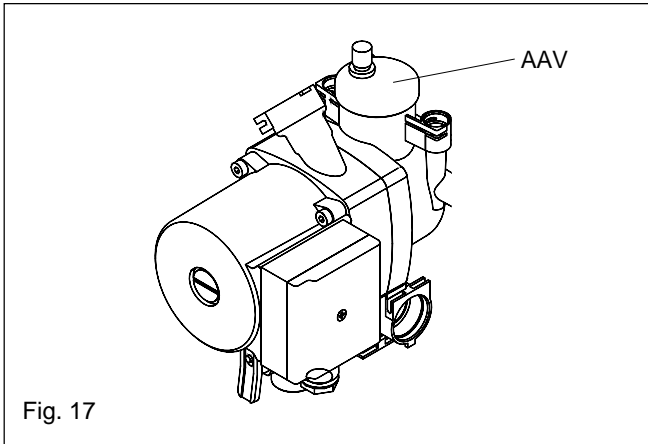

Fig. 17
6.8 AUTOMATIC AIR RELEASE VALVE (AAV, fig. 17)